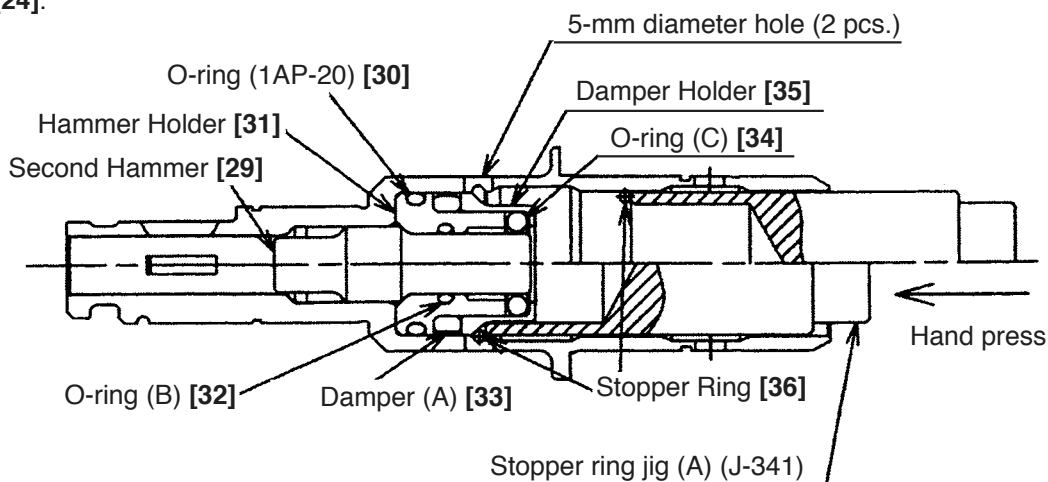

Fig. 22
Mount the Second Hammer [29], O-ring (1AP-20) [30], Hammer Holder [31], O-ring (B) [32], Damper (A) [33], new O-ring (C) [34] and Damper Holder [35] in the Cylinder [24]. Push the new Stopper Ring [36] in the Cylinder [24] then push in the hole side of stopper ring jig (A) (J-341) on it as shown in Fig. 22. Push the upper end surface of stopper ring jig (A) (J-341) with a hand press to fit the Stopper Ring [36] in the groove of the inside diameter portion of the Cylinder [24]. Check that the Stopper Ring [36] is securely fitted in the groove of the inside diameter portion of the Cylinder [24] viewing from the 5-mm diameter hole (2 pcs.) on the Cylinder [24].